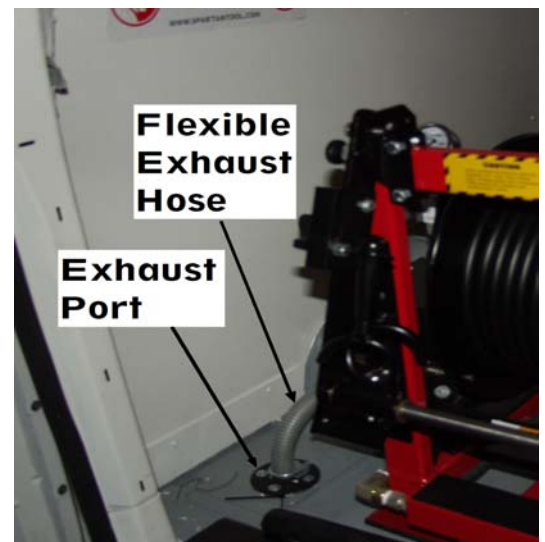

Fig. 1
- 3.) Secure the two units together by using the included (2) 3/8-16 x 4-1/2" screws, (4) 3/8 flat washers, and (2) 3/8-16 locking nuts.
- 4.) Next you'll want to plan out the exhaust routing and the frame mounting points. If required, use the flexible exhaust pipe (cut to length) and elbow supplied with this unit. Be sure to avoid any brake and fuel lines, fuel tank, spare tire mounts, etc. Once the desired position is achieved, mark the hole locations for the exhaust port and the frame mounts. (See Fig. 1)
- 5.) Using the skid mount frame holes as a guide, drill (8) 13/32 diameter holes through the floor of the vehicle.
- 6.) Place the (8) rubber pads between the frame and the vehicle floor and then secure the skid mount unit to the vehicle using the (8) 3/8-16 x 3" screws, (16) 3/8 flat washers, and (8) 3/8-16 locking nuts.